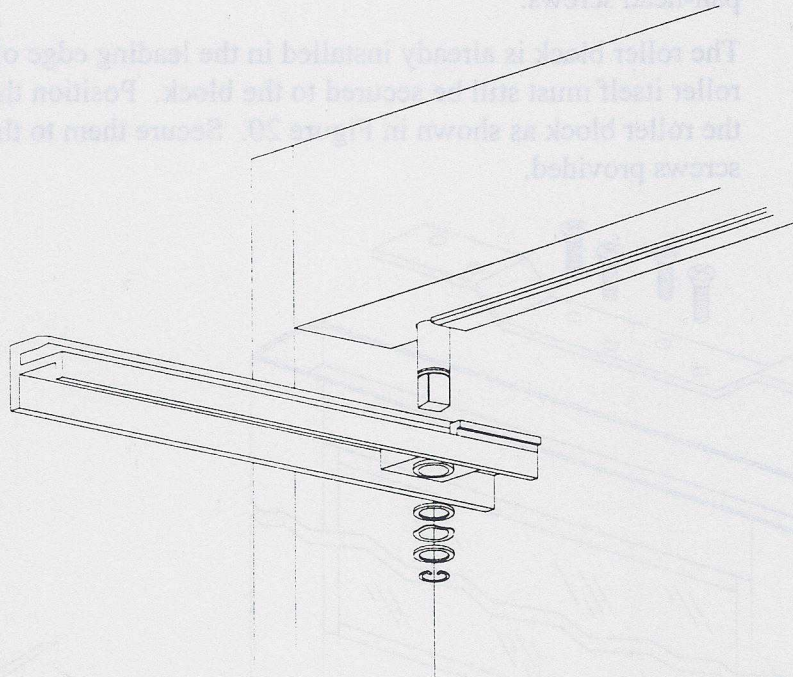

Figure 21: Installing the carrier onto the spindle.
1. Install the carrier rail. Refer to Figure 21 for details.
- b) Place (1) the first washer, (2) the wave washer, (3) the second washer, and (4) the snap ring on the spindle. Snap ring should set securely in the groove on the spindle.